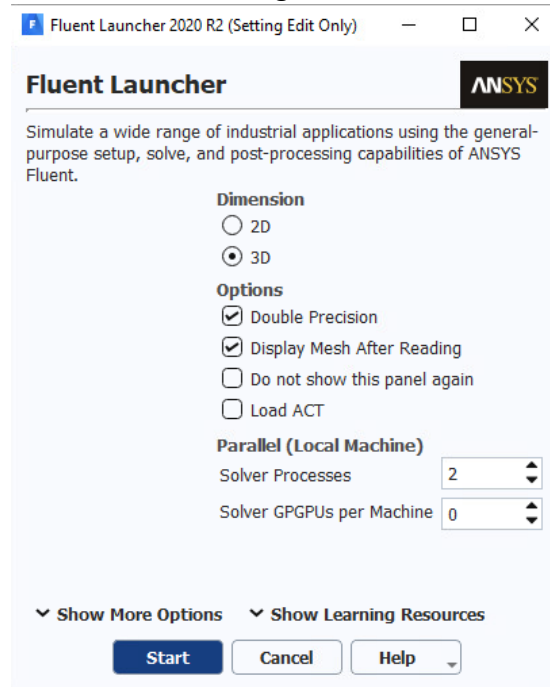

Figure 5. FLUENT Launcher window.
- 2.2. In the **Fluent Launcher** window, select **Double Precision** and **Parallel** solver with **2 processors**. Verify that the other selections are set as shown in Figure 5. Then click **OK**.